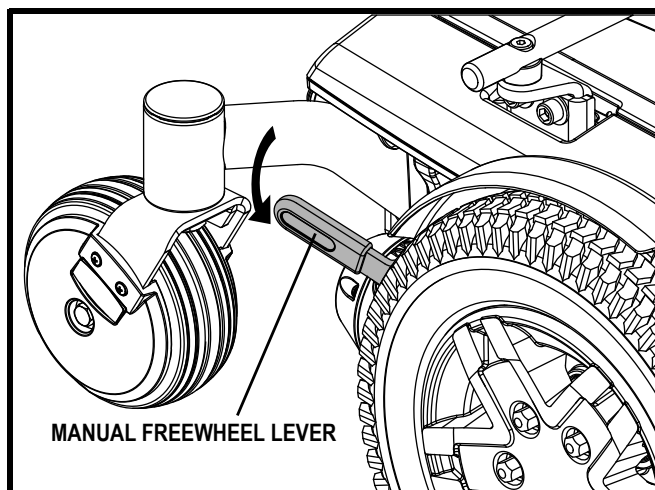

Figure 4. Freewheel Mode (Drive Disengaged)
1. Push down both manual freewheel levers for freewheel mode (drive motor disengaged). See figure 4.